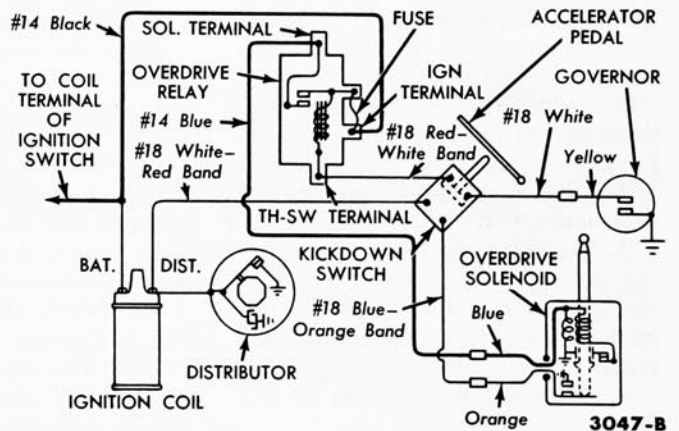

FIG. 2—Overdrive Electrical Control System
1. Turn the ignition switch on and off, and listen for the relay or solenoid to click. If either clicks as soon as the ignition switch is turned on, the governor circuit (Fig. 2) is grounded or the relay is defective.
9. Ground the white wire on the transmission case. If the relay and solenoid click, the governor circuit is working properly from the TH-SW terminal to the connector (Fig. 2), and the trouble is in the yellow wire or the governor. If the relay and solenoid do not click when the white wire is grounded, the trouble is between the TH-SW terminal and the connector (Fig. 2).
2. Raise the car and pull the blue wire with an orange band (Fig. 2) from its connector near the solenoid, and ground it to the transmission case with a jumper.